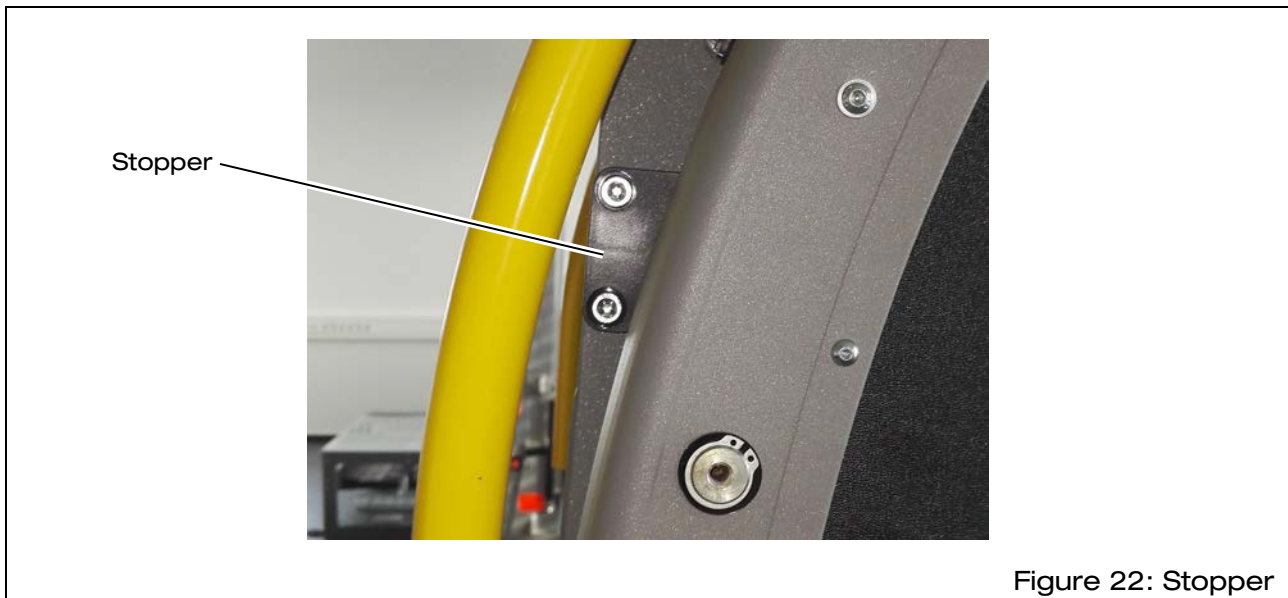

Figure 22: Stopper
When the platform has been fully run to the vertical, stowed position, the side stoppers must rest snugly against the lifting unit (see Figure 22).
- ⇒ Check that the stoppers rest snugly against the lifting unit (see Figure 22, page 49).